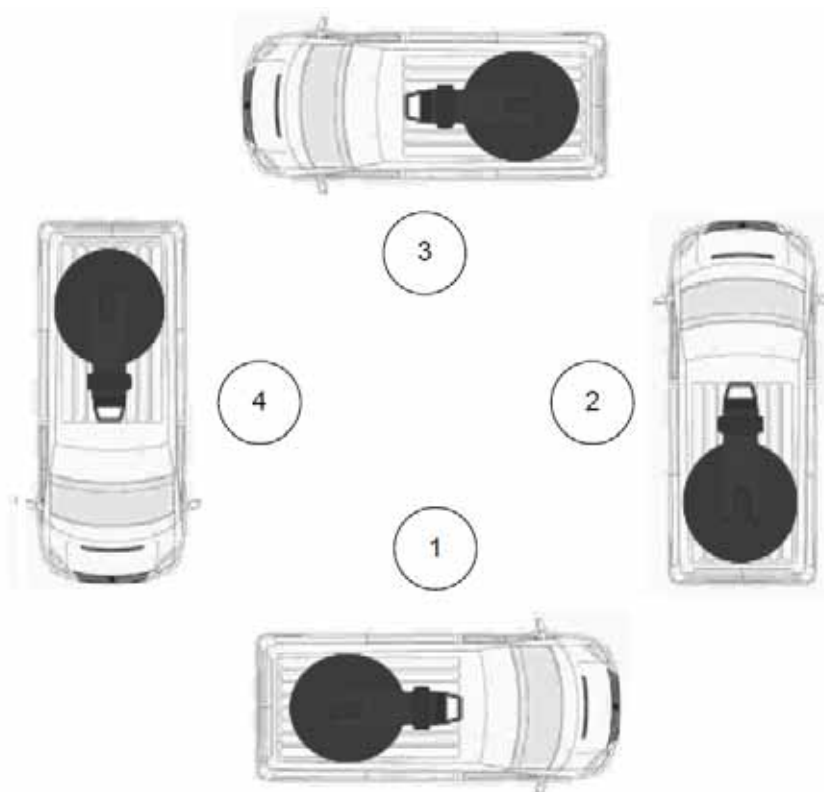

Figure 6-9: Compass calibration, vehicle positions
10. When the first part is completed, move the vehicle so that it is parked approximately on a 90 degrees angle relative to the previous position, see Figure 6-9.